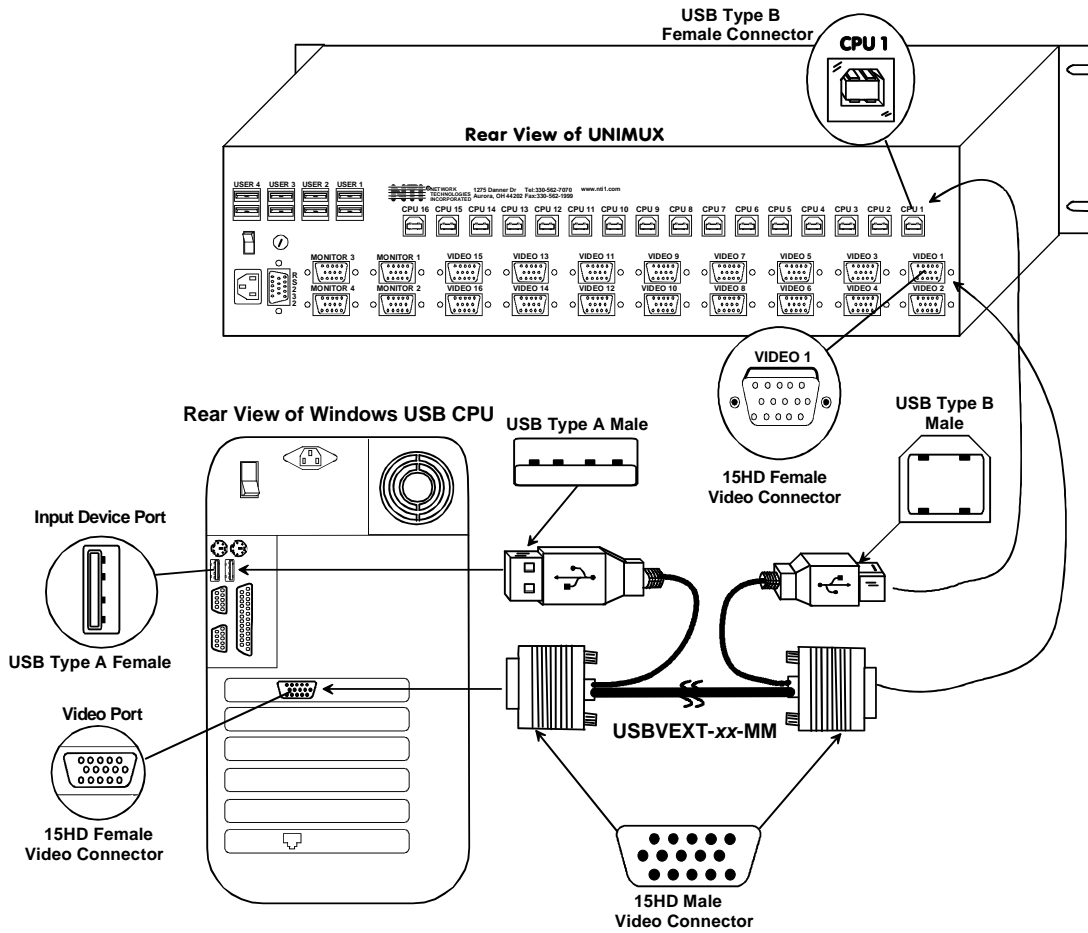

Figure 6- Connect each CPU using a USBVEXT-xx-MM cable
**Note:** Make sure the CPU is connected to a Keyboard port and a Video port with the same number. (See Figure 6.)